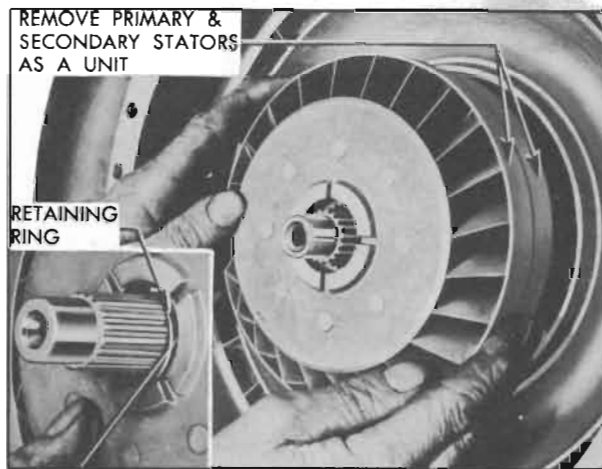

Figure 4-76—Removing Reaction Shaft Retaining Ring and Stators
6. Use a narrow pointed tool to remove the retaining ring from the reaction shaft. Remove both stators as one unit—their separation will result in clutch parts flying out. See figure 4-76.